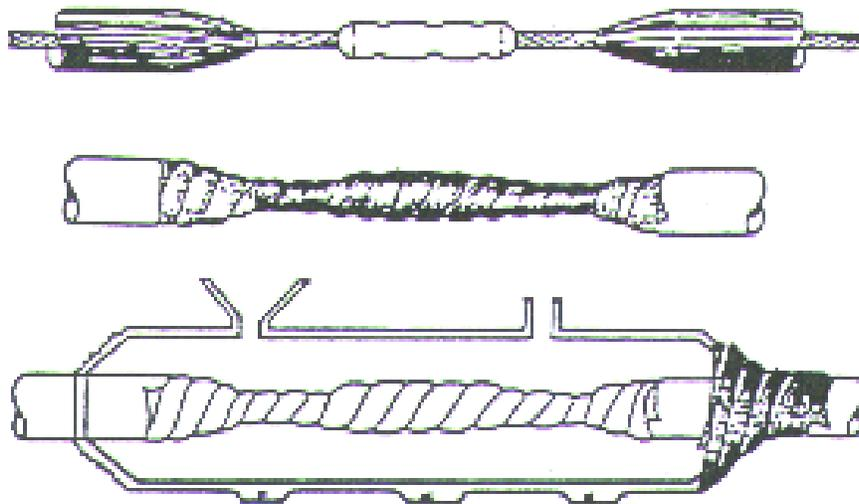

Figure 1, A Resin Splice.
Step 6: Pour resin (Figure 1).